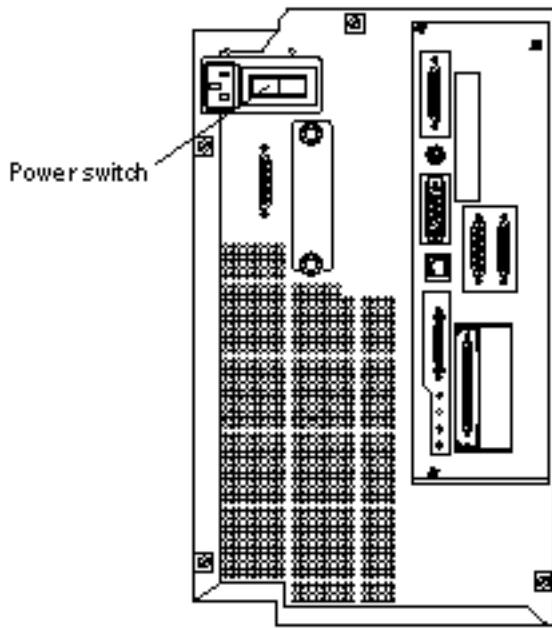

Figure 1-20 Netra 150 Server Power Switch
- 5. Locate the power switch at the rear of the Netra 150 server (Figure 1-20).**